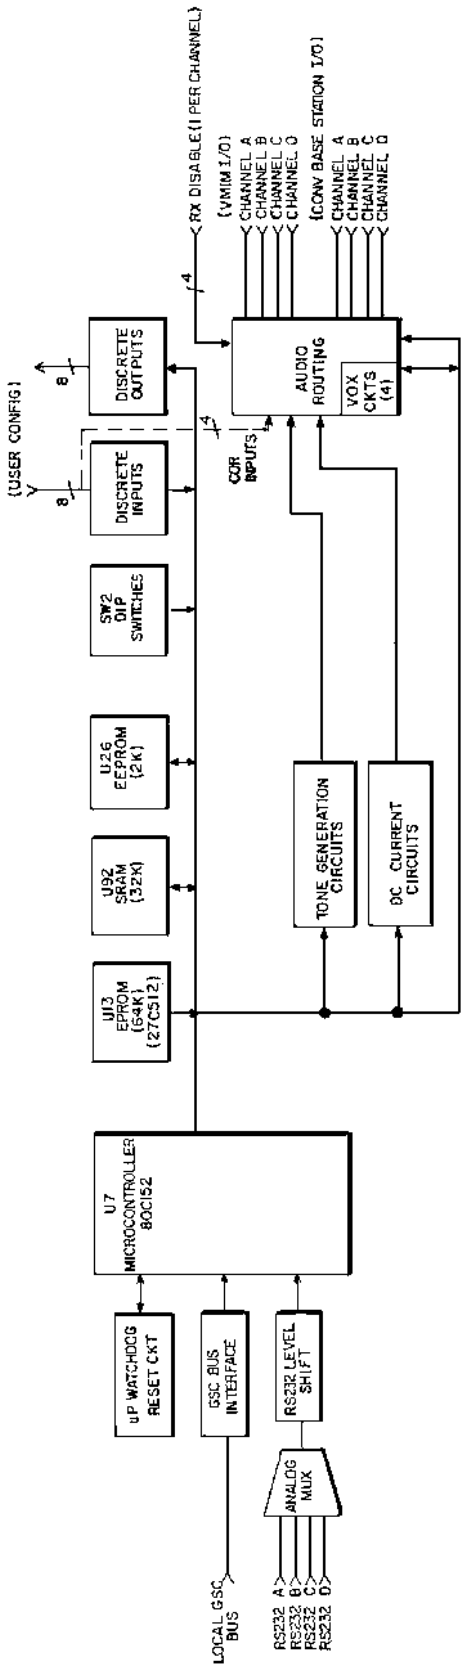

Figure 2 - Conventional Interface Board Block Diagram
Figure 2 is a detailed block diagram of the Conventional Interface (CI) board. Each CI board has a microcontroller to support the audio processing and routing circuitry. The microcontroller is supported by several external memories, including an EPROM, a Static RAM (SRAM) and an EEPROM. These memories hold the operating programs for the microcontroller, provide scratch pad memory and hold other data used by the microcontroller. An internal address and message bus connects the microcontroller to the external memories. This bus also connects the microcontroller to DIP switches that are used to set the personality of the CI board and to discrete inputs and outputs for an I/O user configuration interface to the base station. The I/O port may be used to support E&M signaling.